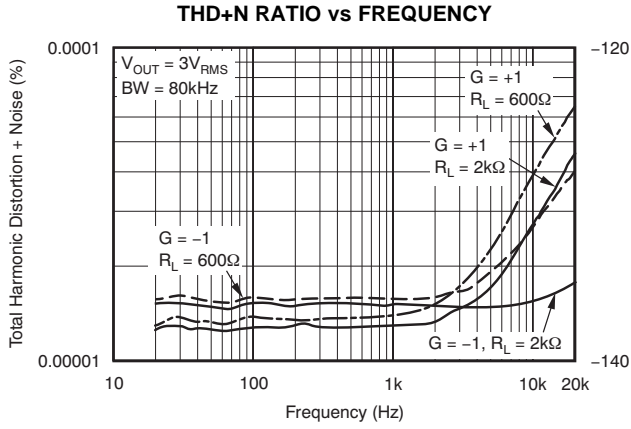

Figure 7.
The OPA161x series op amps have excellent distortion characteristics. THD + Noise is below 0.00008% ( $G = +1$ ,  $V_O = 3V_{RMS}$ ,  $BW = 80kHz$ ) throughout the audio frequency range, 20Hz to 20kHz, with a  $2k\Omega$  load (see Figure 7 for characteristic performance).
(1) For measurement bandwidth, see Figure 7 through Figure 12.